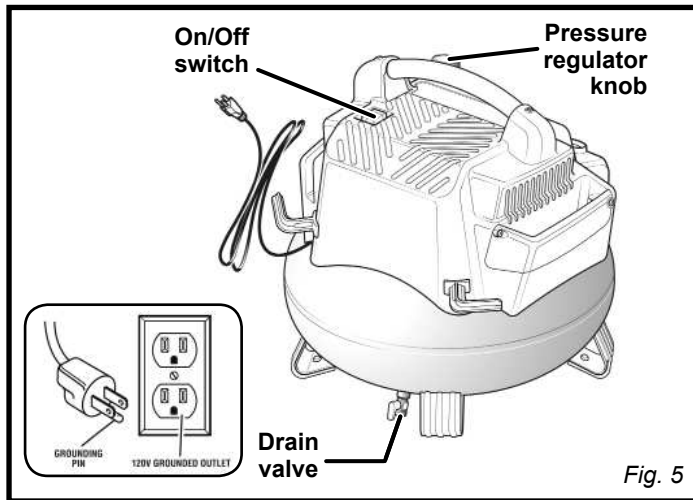

Fig. 5
See figures 5 - 6.
- Ensure the tank drain valve is closed (see fig. 5).
- Ensure the ON/OFF switch is in the **OFF (O)** position and the air compressor is unplugged (see fig. 5).
- Ensure the pressure regulator knob is turned fully counterclockwise (see fig. 5).